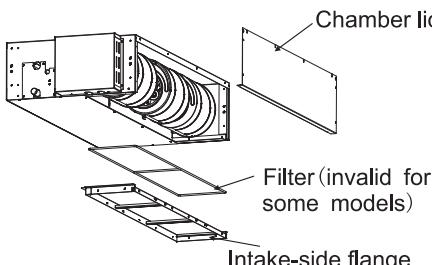

Fig. 3.1.3
- Reattach the removed chamber lid in the orientation shown in Fig. 3.1.3, reattach the removed intake-side flange in the orientation as shown in Fig. 3.1.3.